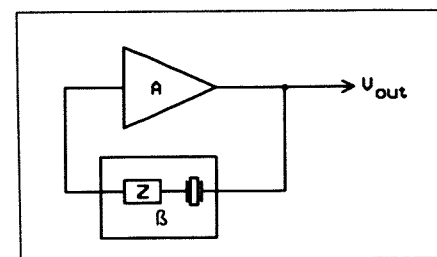

Figure 3. The classic representation of negative feedback.
An oscillator is a common RF circuit requiring application of feedback principles. Let's use the simplified oscillator circuit in Figure 3 as an example. Let's assume that the amplifier A is a packaged device which has a gain of 10 at the frequency of interest, and is an inverting amplifier with a phase shift of 180 degrees at that frequency. For β , we will use a crystal along with additional circuitry (Z) to obtain the necessary feed-